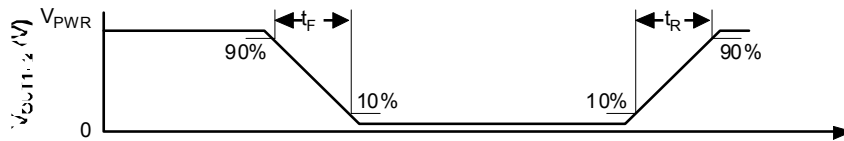

Figure 8. Output Switching Time
29. Rise Time is from the 10% to the 90% level and Fall Time is from the 90% to the 10% level of the output signal. See Figure 8, page 12.